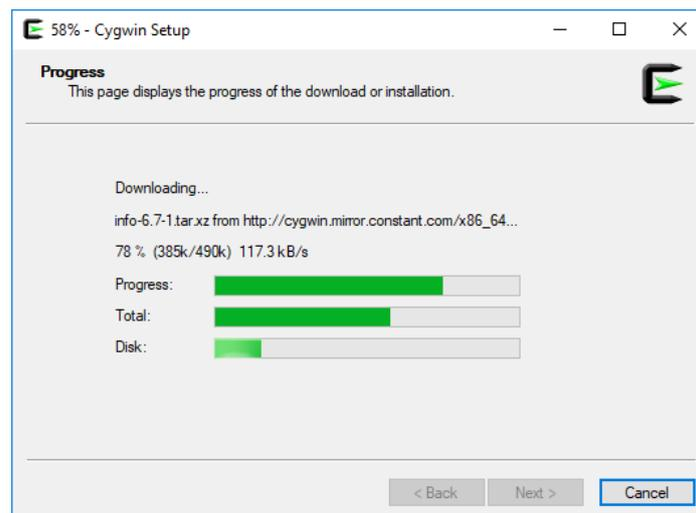
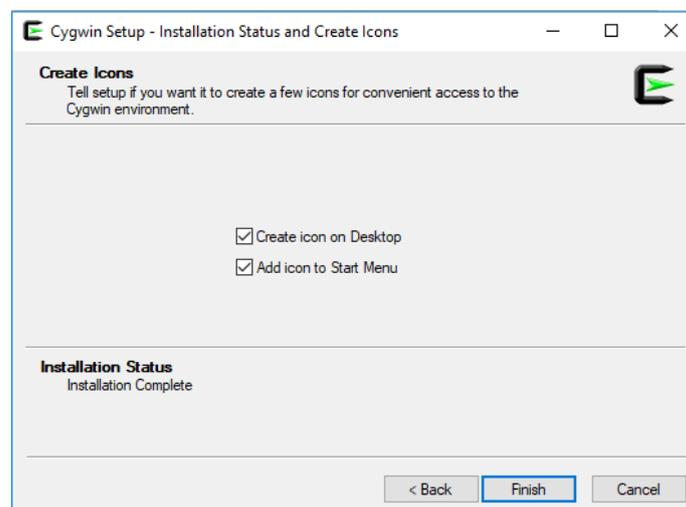

Figure 108. Cygwin setup
Figure 109. Finish the installation
5. Once you have selected the nine packages, click **Next** in the subsequent windows to include these packages in your Cygwin installation (the installation process, see Figure 108, may take several minutes) and finalize the installation by clicking Finish (Figure 109).